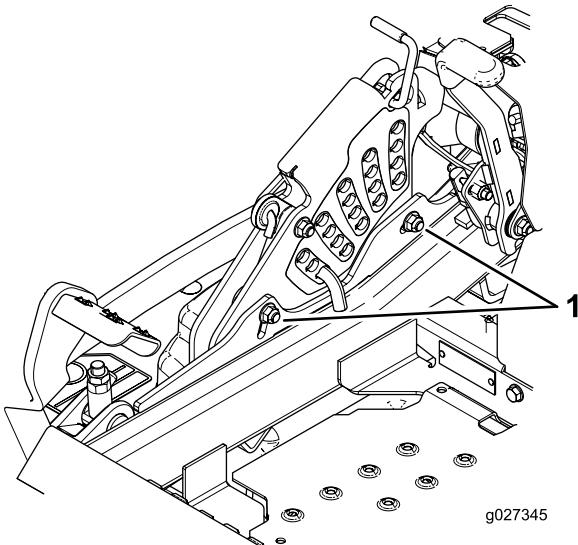

Figure 95
12. To adjust the single point system, loosen the two bolts at the bottom of the height-of-cut plate. Refer to Figure 95.
14. Tighten the 2 bolts at the bottom of the height-of-cut plate (Figure 95). Torque them to 37 to 45 N·m (27 to 33 ft-lb).